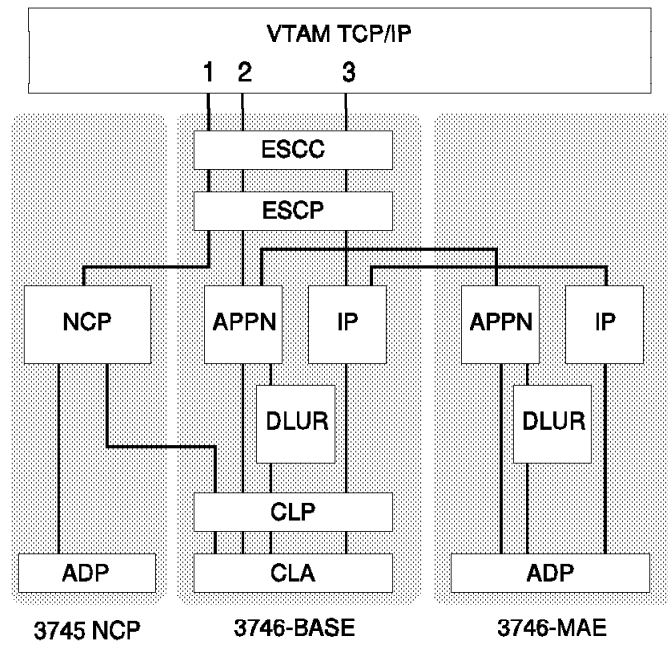
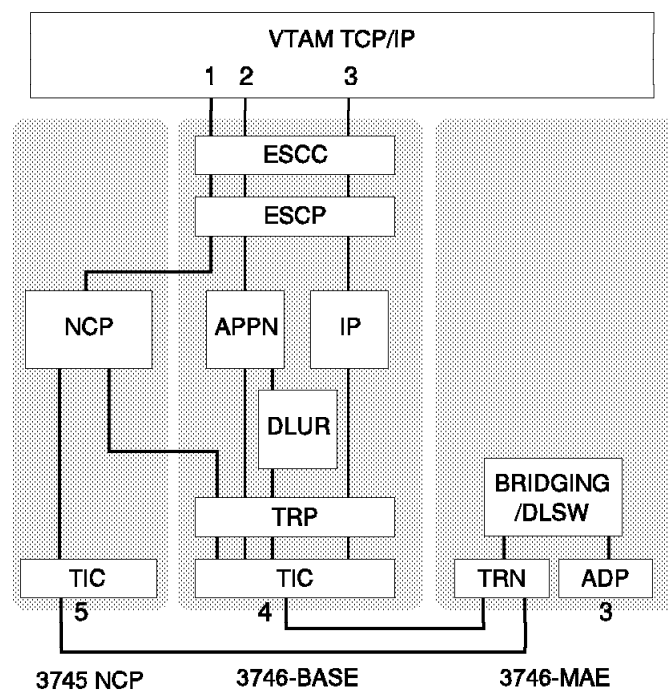

Figure 4. 3746 Base ESCON Connectivity
Figure 5. MAE to 3746 Bridging and DLSw for Subarea Traffic
Figure 4 on page 7 shows which traffic can use the 3746 native ESCON adapters. The APPN and IP components are shown as being connected together. In the 06/30/97 release of the MAE, this connection will involve using an external token-ring connections between the 3746 frame and the MAE. In a later release, this will be replaced by an internal hardware connection.
1. Figure 5 shows traffic entering the MAE (3), which is then bridged to the 3745 or 3746. This traffic could either be bridged over the dedicated token-ring connections between the MAE and 3746 frame, or over a different token-ring, either to a 3746 (4), or to a 3745 (5) token-ring adapter. The traffic is then routed by the APPN (3746 NNP or NCP/CNN) or IP functions as in Figure 4 on page 7
2. DLSw traffic entering the MAE (3) can be used to transport subarea BNN traffic, this traffic can then be directed to token-ring connections on the MAE. As with the previous example, this can be the dedicated ring, or a different ring connecting a 3745 or the 3746 to its MAE.
As in Figure 5 on page 8, traffic can also be bridged or send from DLSw to the 3745 via token-ring, this traffic can also then be transported over the 3745 parallel channels.